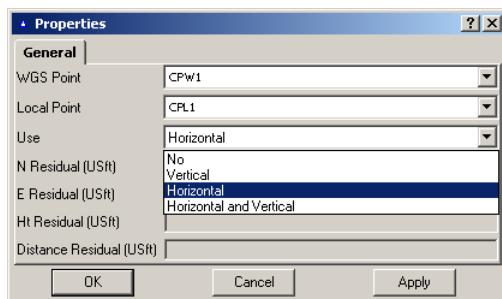

Figure 5-7. Control Point Properties – Select of the Localization Type
- Right-click the Control Point and select **Properties** from the pop-up menu. Select the corresponding *WGS Point/Local Point* from the drop-down list (Figure 5-7).